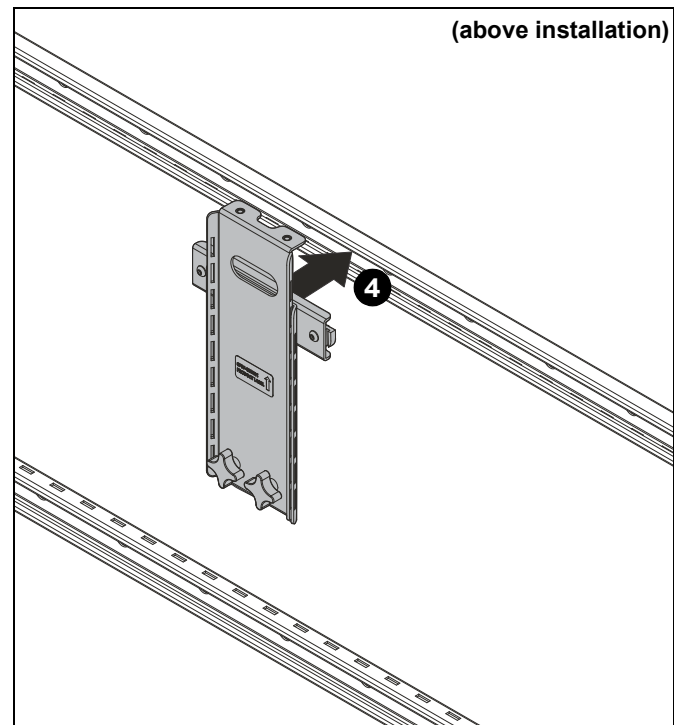

Figure 4
4. Install height-adjustable bracket (C) onto AS3LD mount at desired mounting position. (See Figure 4)